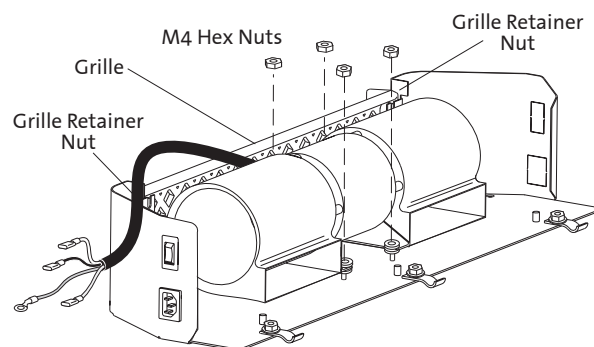

Figure 15. Attach the Blower to the Extension Base plate.
- 2. Remove the Front Grille** from the Hearth Extension to provide better access to install the blower. Use the 8 mm wrench to loosen the two retainer nuts (fig. 15) and lift the grille from the extension base.
- 4. Attach the Blower:** Use a 7 mm wrench or long socket to attach the Blower to the Extension Base using the four M4 nuts as illustrated in fig. 15. **Do not overtighten.** Be sure to orient the blower as shown with the ducts facing to the rear.